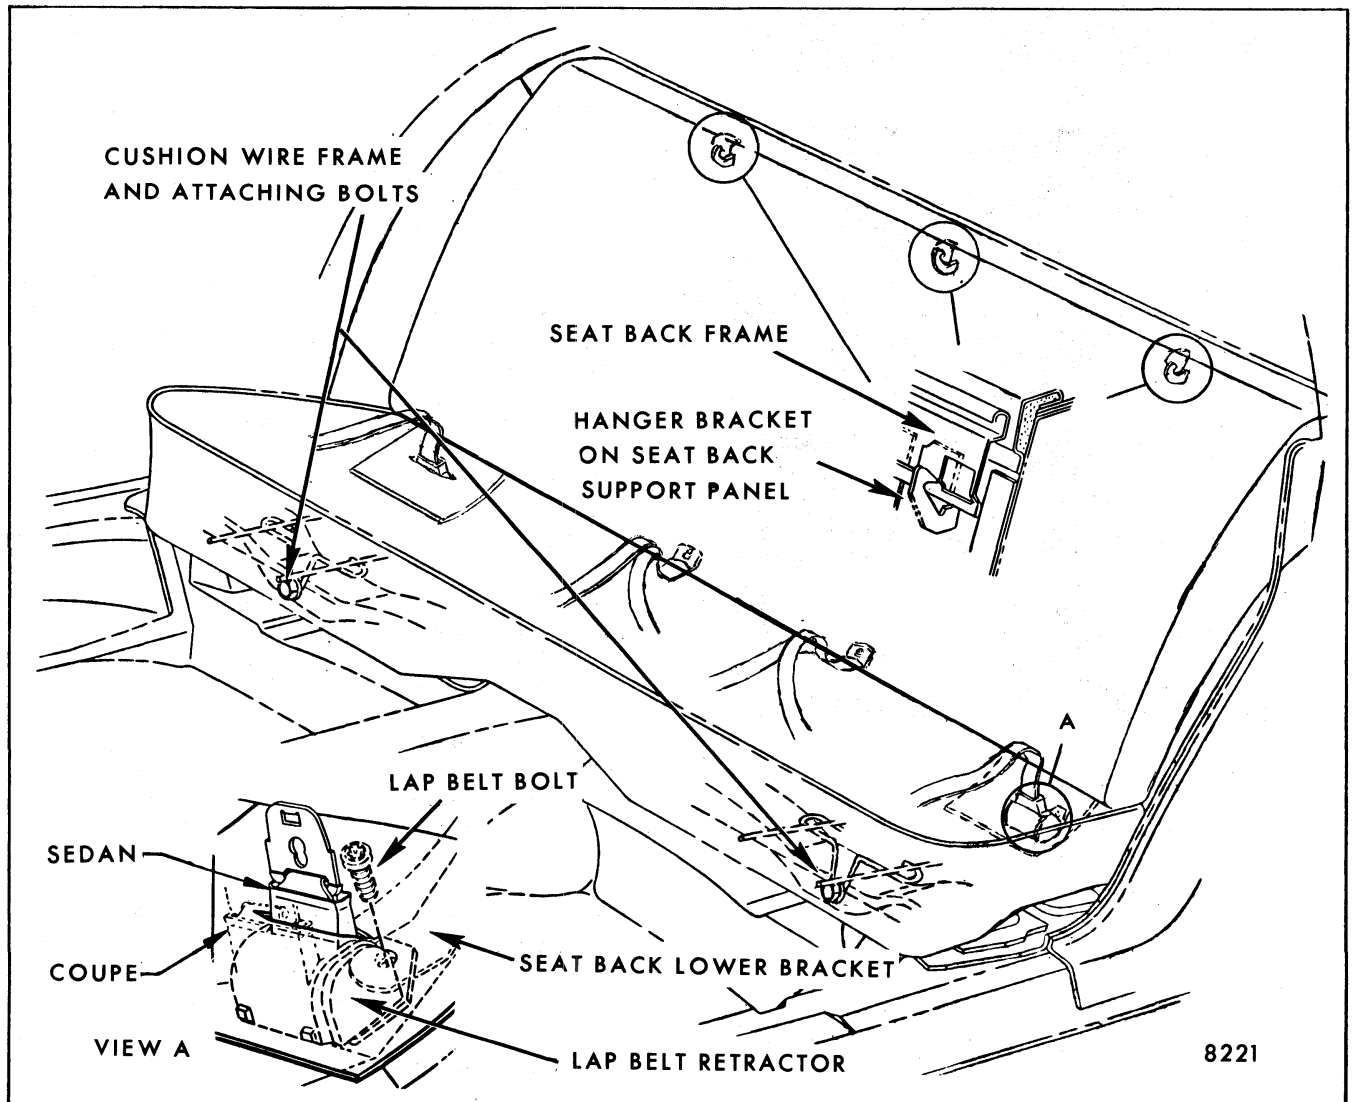

Fig. 9-70-Rear Seat Cushion and Back Installation - All "A" Body Except Station Wagons
1. Under front of rear seat cushion, remove two bolts securing rear cushion wire frame to floor pan (Fig. 9-70).